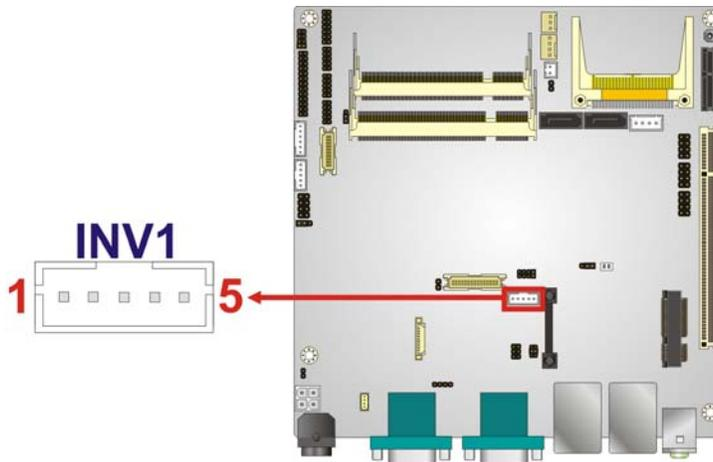

Figure 3-13: LVDS1 Backlight Inverter Connector Location
- CN Location:** See **Figure 3-13**